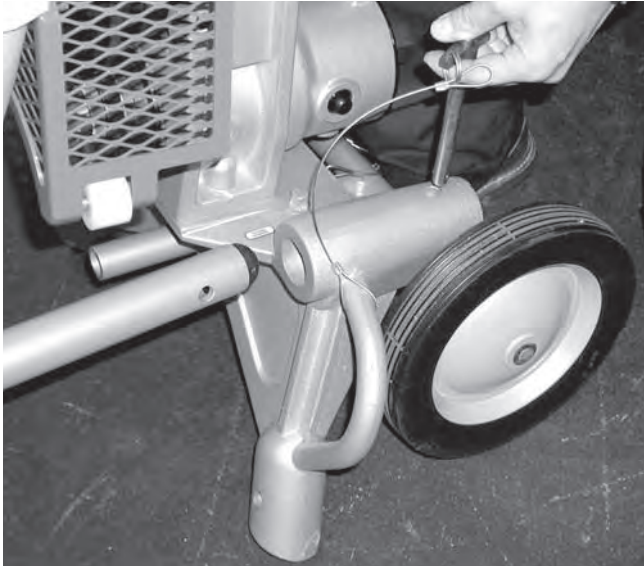

Figure 25 – Attaching the Support Legs
3. Place the groover support legs into the base and insert the hitch pins (*Figure 25*). The support legs can be used as handles to wheel the groover to the work area.